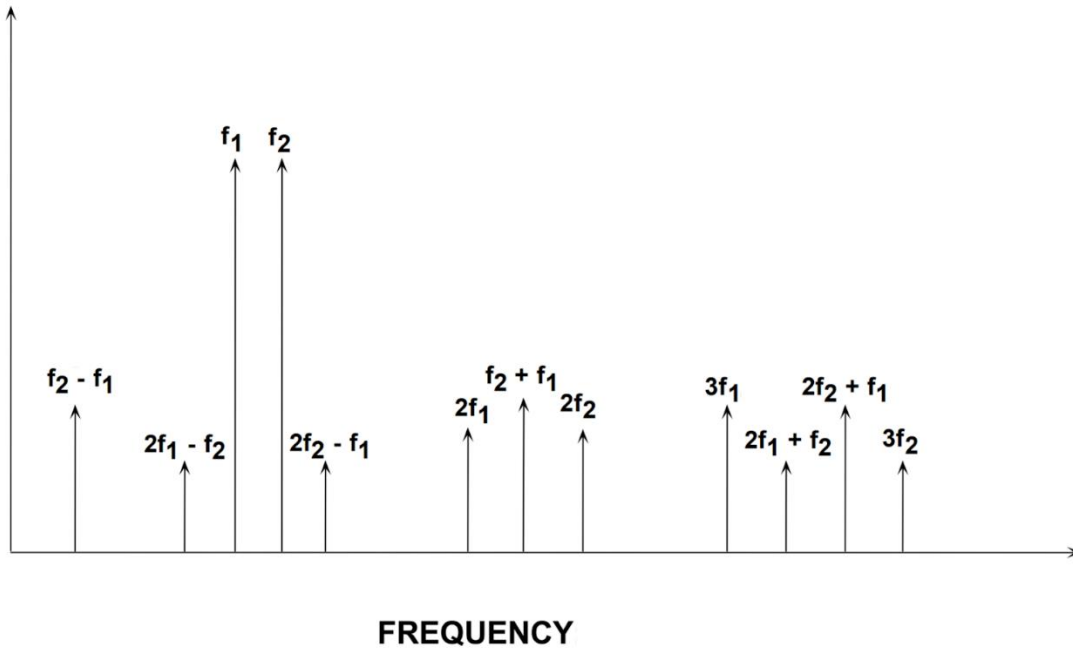
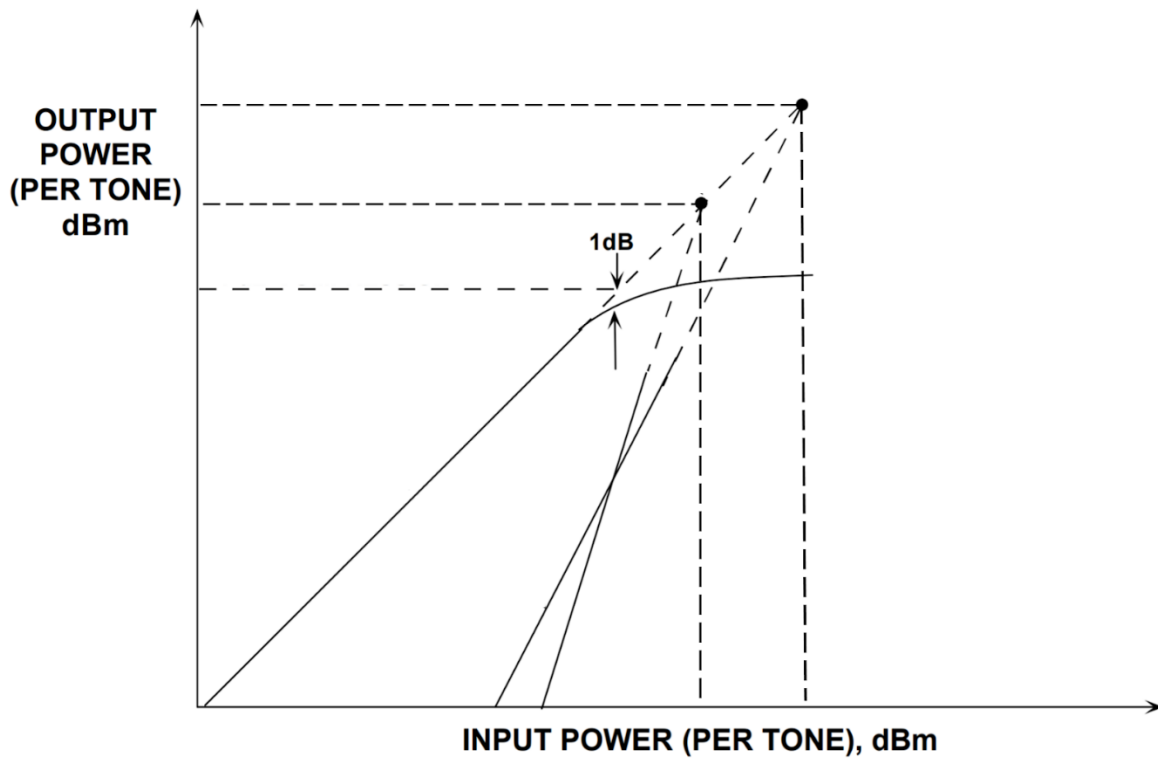

Figure 1
Figure 2
2. Consider a two-tone intermodulation test using the frequencies  $\omega_1$  and  $\omega_2$ . In the spectrum in Figure 1...
- a. Write a (1) over the fundamental tones
- b. Write a (2) over the second-order intermodulation products
- c. Write a (3) over a third-order intermodulation products
- d. Write an (H) over products that are harmonics of fundamental frequencies
3. Consider the log-log plot of output power against input power in Figure 2. Label...